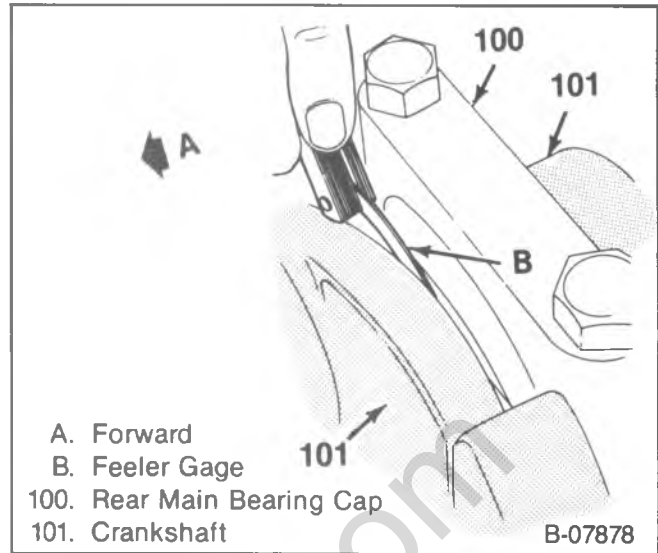

Figure 34—Measuring Crankshaft End Play
- With the crankshaft forced forward, measure at the front end of the rear main bearing with a feeler gage (figure 34). The proper clearance is 0.006–0.010–inch.